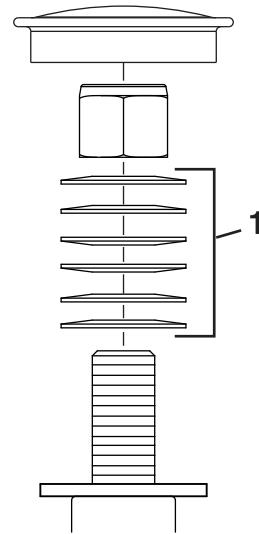

Figure 56
3. Remove the dust cap from the caster and tighten the locknut (Figure 56).
4. Tighten the locknut until the spring washers are flat, and then back off a 1/4 turn to properly set the preload on the bearings (Figure 56).
**Important:** Make sure that the spring washers are installed correctly as shown in Figure 56.
5. Install the dust cap (Figure 56).